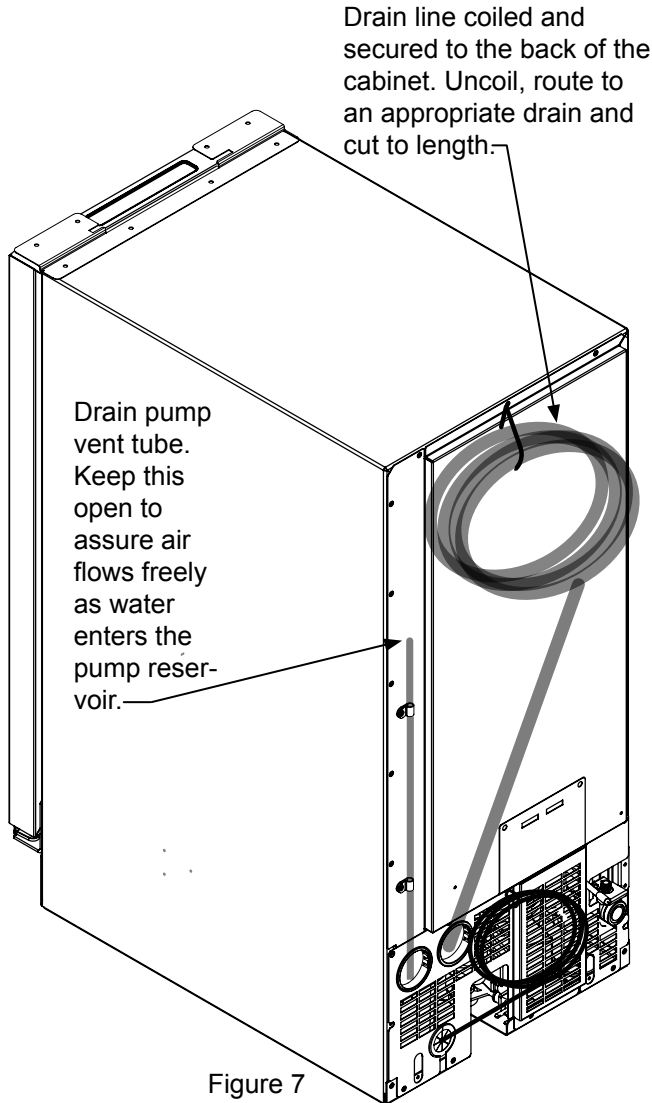

Figure 7
- The vent tube on the back of the unit is open (see Figure 7).